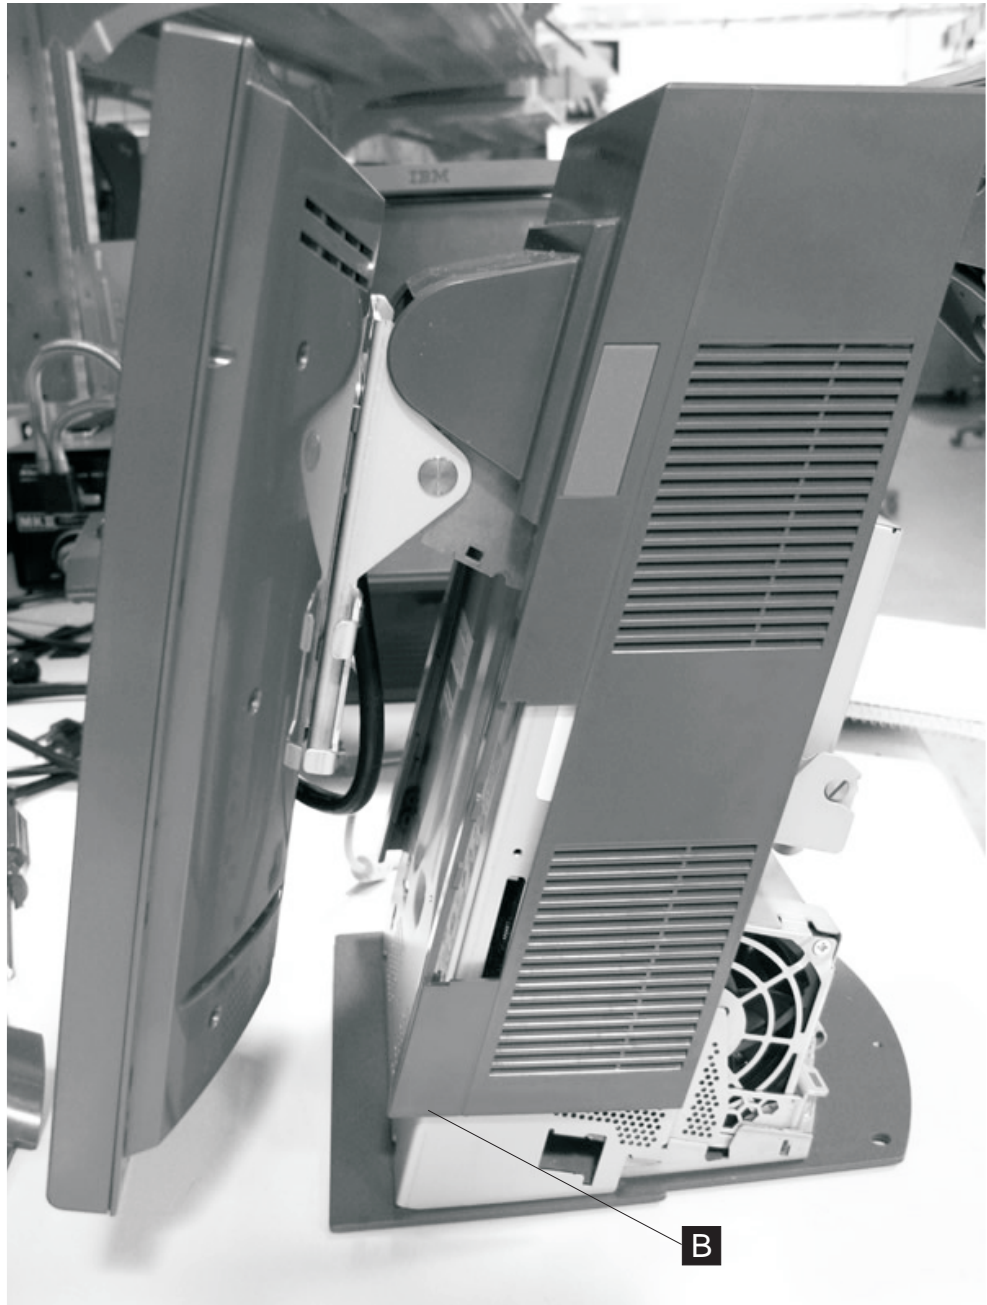

Figure 35. Main cover
7. Remove the main cover by lifting up and pulling sides away from the unit. See **B** in Figure 35.